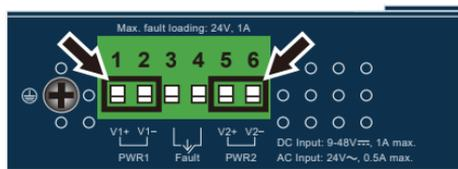

Figure 3-1: ICS-2100T/ 2105AT/ 2102T/ 2102TS Upper Panel
1. Insert positive/negative DC power wires into **Contacts 1 and 2** for **Power 1**, or **Contacts 5 and 6** for **Power 2**. Figures 3-1 to 3-3 show PWR1 and PWR2 of the Industrial Serial Server.